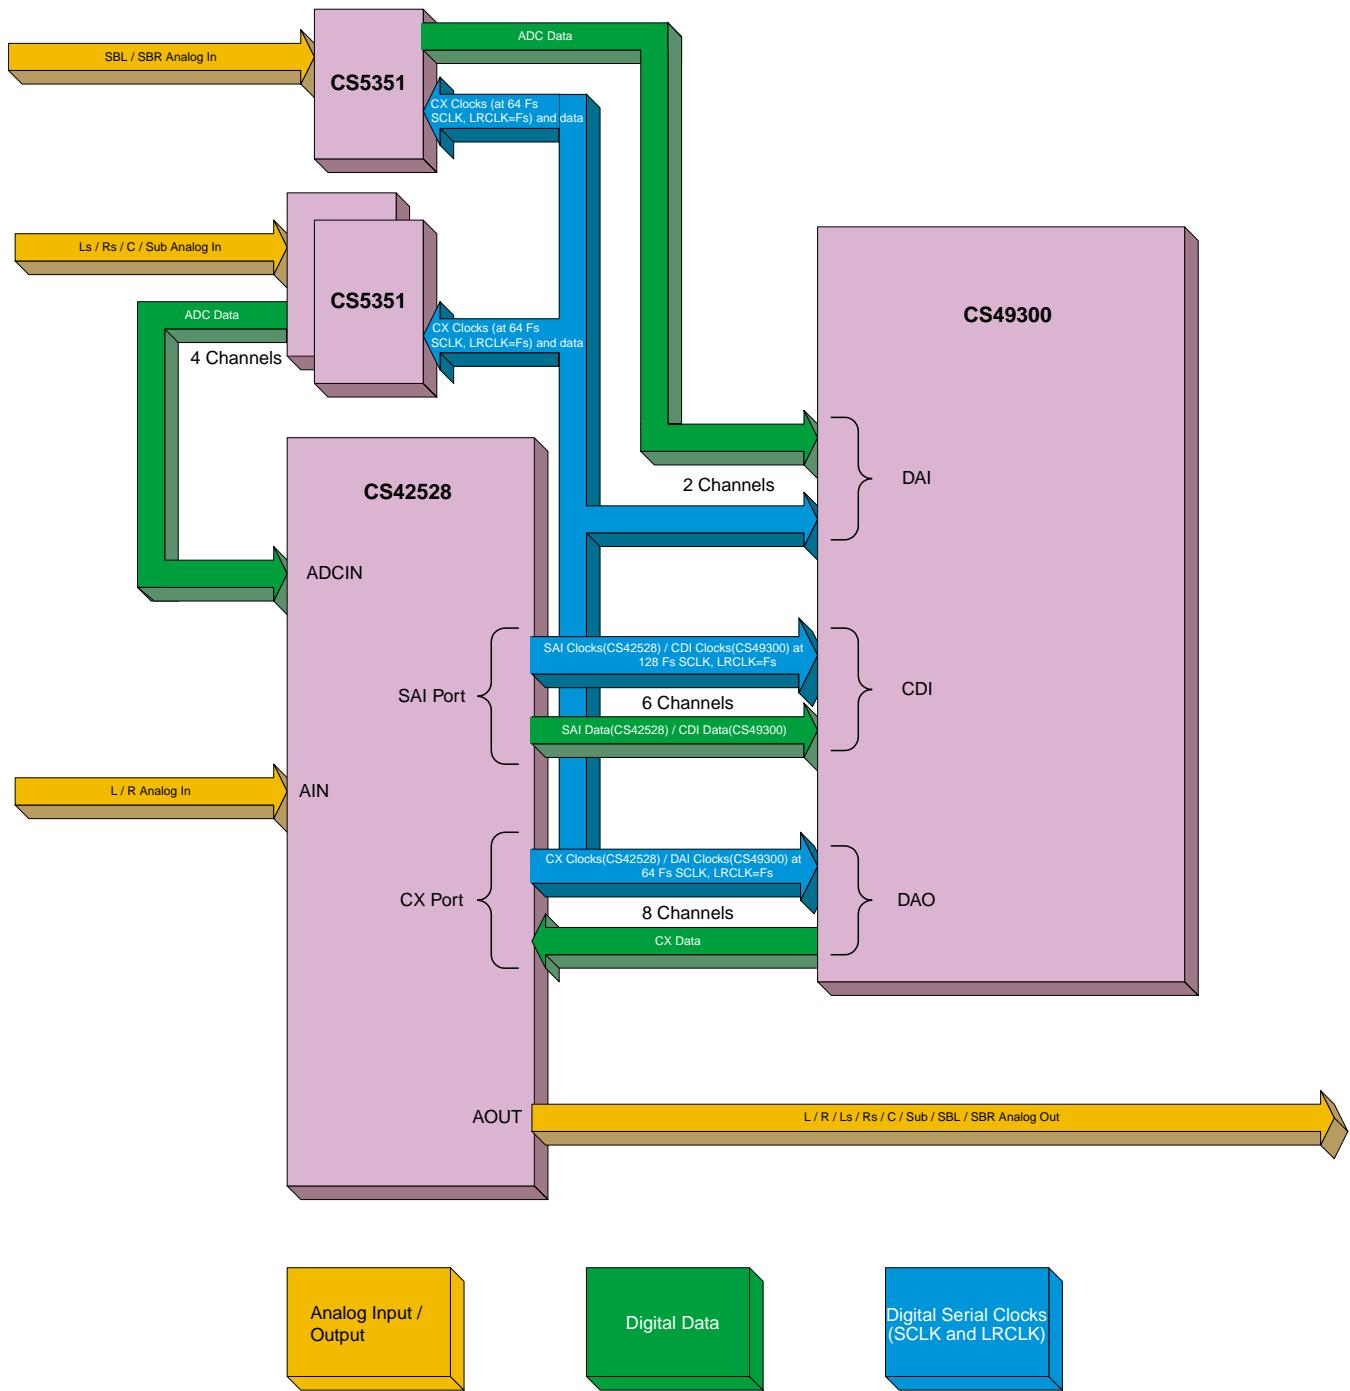

Figure 4. Data and Clock Connections for 8 Channel Analog Input and Output
A detailed diagram of the clock and data connections for analog input mode can be found in Figure 4, “Data and Clock Connections for 8 Channel Analog Input and Output,” on page 10. When Analog Input Mode is used, the CRD42528 will process up to 8 channels of analog input. The analog source is the analog I/O connectors on the UDSP MainBoard, which are routed directly to the CRD42528. The Left (L) and Right (R) analog inputs are connected, via input filters, to the CS42528’s analog input pins. When 6 channel (referred to as 5.1 channel) input is desired, two external CS5351 Analog to Digital Converters are used. These external ADCs receive the RMCK output from the CS42528. In this mode, RMCK will pass through the 12.288 MHz oscillator connected to OMCK. The external ADC serial ports are driven from the CS42528’s CX port clocks. The Left Surround (Ls), Right Surround (Rs), Center (C), and Subwoofer (Sub) inputs to the CRD42528 are connected to the external CS5351’s analog inputs, and the digital outputs from the two external CS5351s is then connected to the CS42528’s ADCIN1/2 pins. The CS42528 will incorporate all of the data from the external ADCs and it’s own analog input data onto a single line and send it to the DSP via the CS42528’s SAI port. In this way, the DSP gets the L, R, Ls, Rs, C, and Sub channels into it’s CDI port.